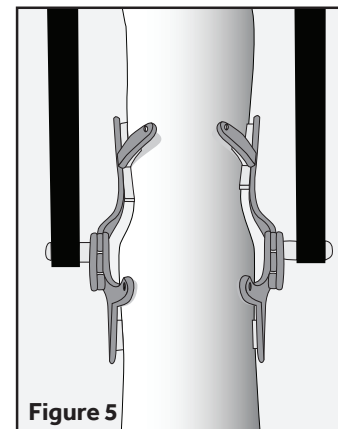

Figure 5
3. Remove hinges and attach 1/8" cork spacers (provided) to ensure proper spacing between hinge and positive model. See Figure 5